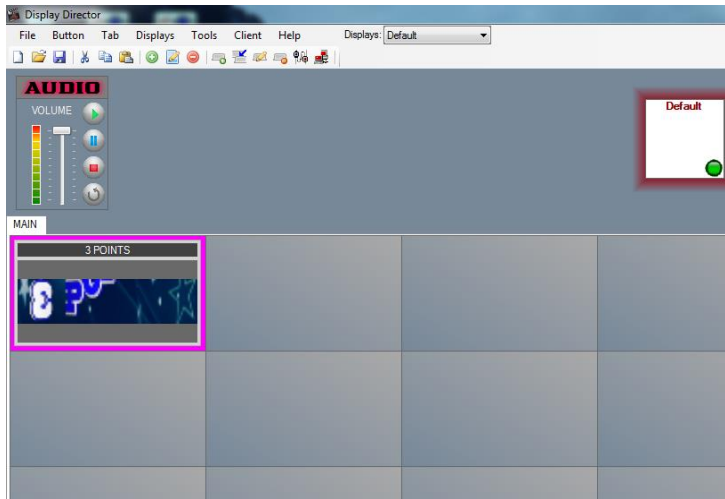

Figure 2-14
To finish all button additions, click on SAVE (21) and the button will be added to the button grid as shown in Figure 2-14.